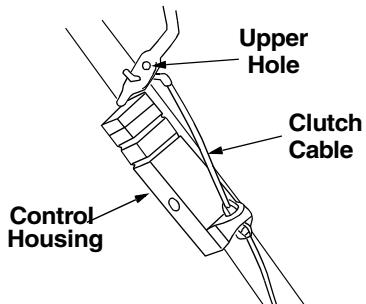

Figure 10
- The upper hole in the control handle provides adjustment for belt tension. To adjust, disconnect the "Z" end of control cable from the bottom hole in the control handle. See Figure 10 . Hook the cable into the upper hole in control handle as shown.